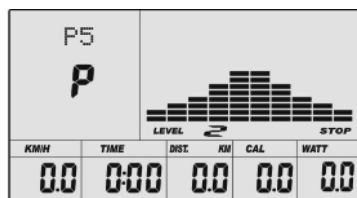

Fig 25
A. Press (or rotate) UP, DOWN button to select the program that you like. (See Fig 25)